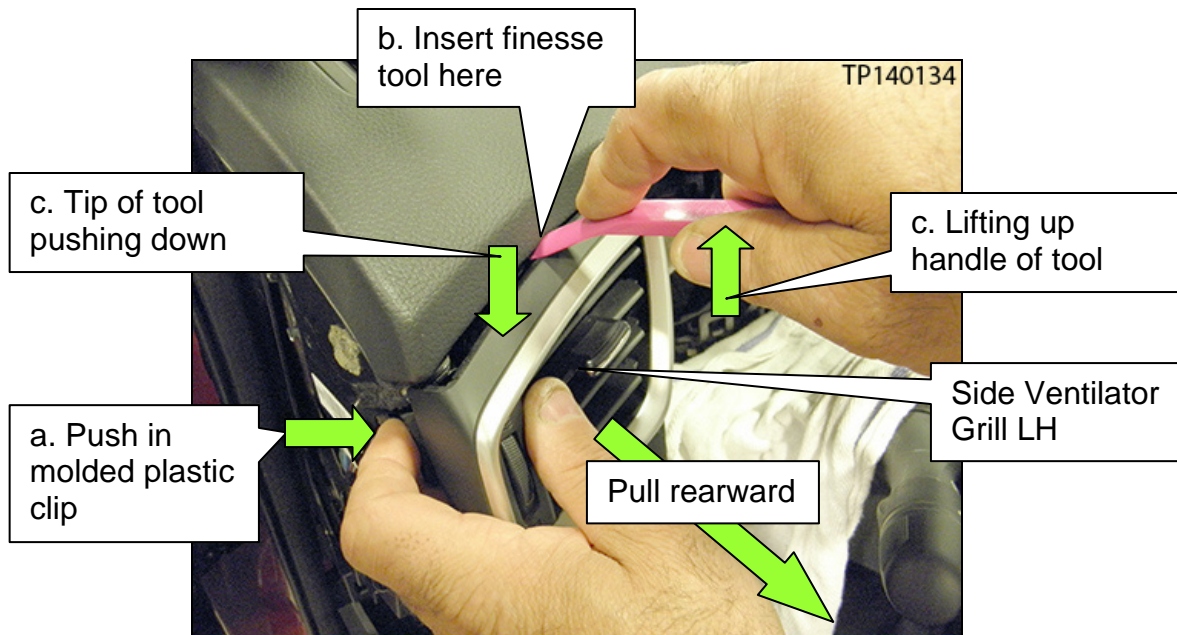

Figure 8
7. Remove the Side Ventilator Grill LH from the Instrument Finisher A and Instrument Panel as show in Figure 8: